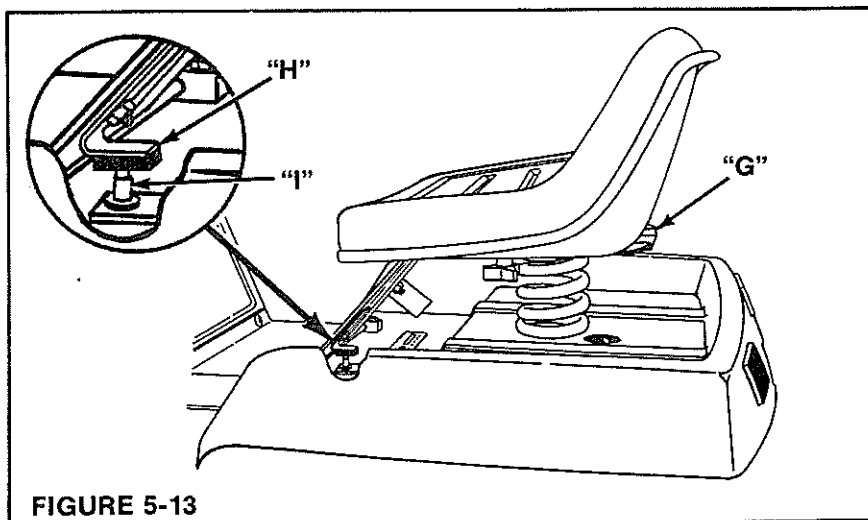

FIGURE 5-13
2. A seat switch is located under the seat. This switch should be activated when back edge of seat support (G) Figure 5-13 is depressed $\frac{5}{8}$ " (1.6 cm). If not loosen bracket (H) and move to correct location. The switch can also be activated by raising the seat and lifting the interlock button (I) up.